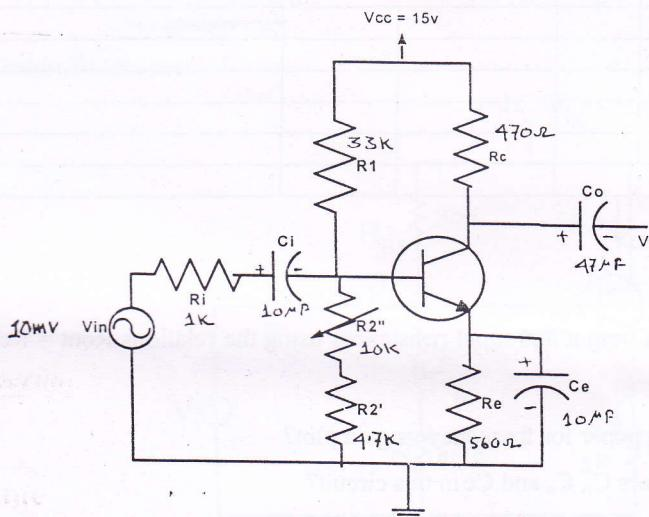

Fig.1: Common Emitter Amplifier Circuit.
1. Construct the circuit with transistors as shown in fig.1.